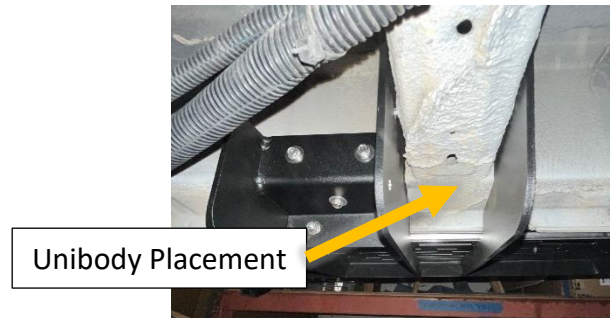

Figure 2: Unibody Placement Example
1. Hold up the passenger side step to the backside of the pinch weld with help from a second installer to verify that there are no obstructions on the mounting surfaces of the pinch. Slide the side steps forward or backwards until the brackets align onto the unibody supports on the underside of the vehicle (**Figure 1 & Figure 2**) – verify by checking alignment of middle shroud with the body seam at the back of the B pillar and front shroud aligns with fender flare (**Figure 3**).